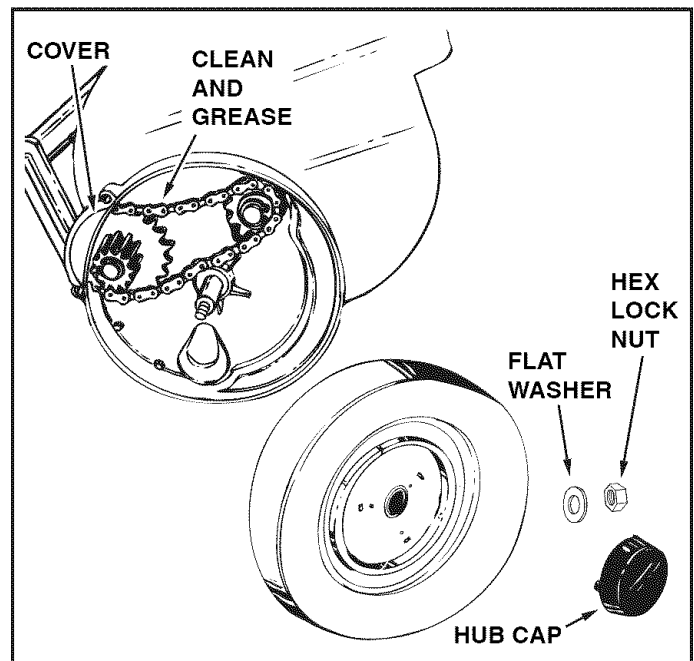

FIGURE 22
- Every two years, remove the wheels and clean the sprockets, chains and gears found inside the wheel housing. After cleaning, lubricate with an even coat of light grease. To remove the wheel, pop off the hub cap using a screwdriver and remove the lock nut and flat washer. See figure 22.